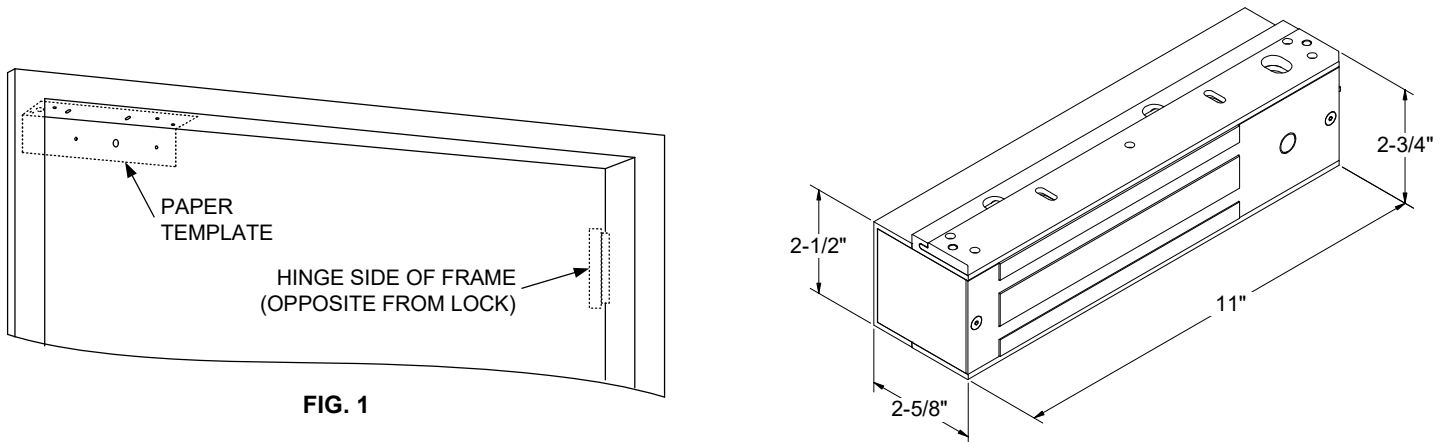

FIG. 1
1. Locate the paper Template and fold along the dotted line. Place the folded edge of the template against the door, header stop, and vertical stop opposite the hinge side of the door (see Fig. 1). Tape in place at this position.